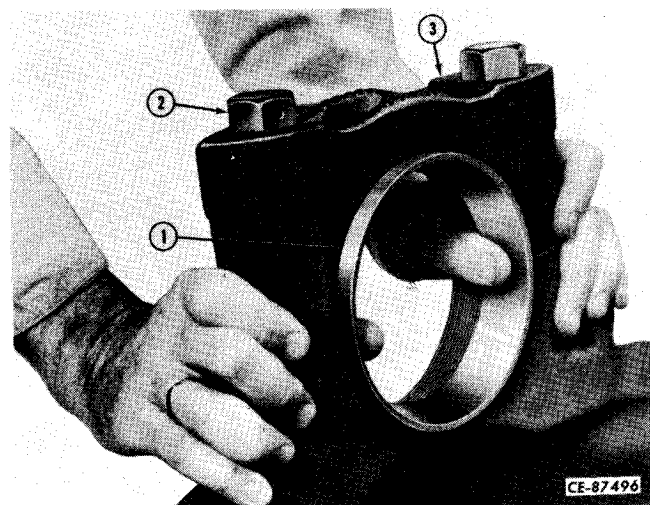

Figure 6-58
Temporarily install bearing cups (1, Fig. 6-58) and bearing caps (3). Tighten bearing cap
The bearing cups (1, Fig. 6-58) must be a hand push fit in their respective bores. If cups are too tight, bores must be reworked with emery cloth until a push fit is obtained. Use a blued bearing cup as a gauge and check the fit often. When cups fit properly, remove the bearing caps.